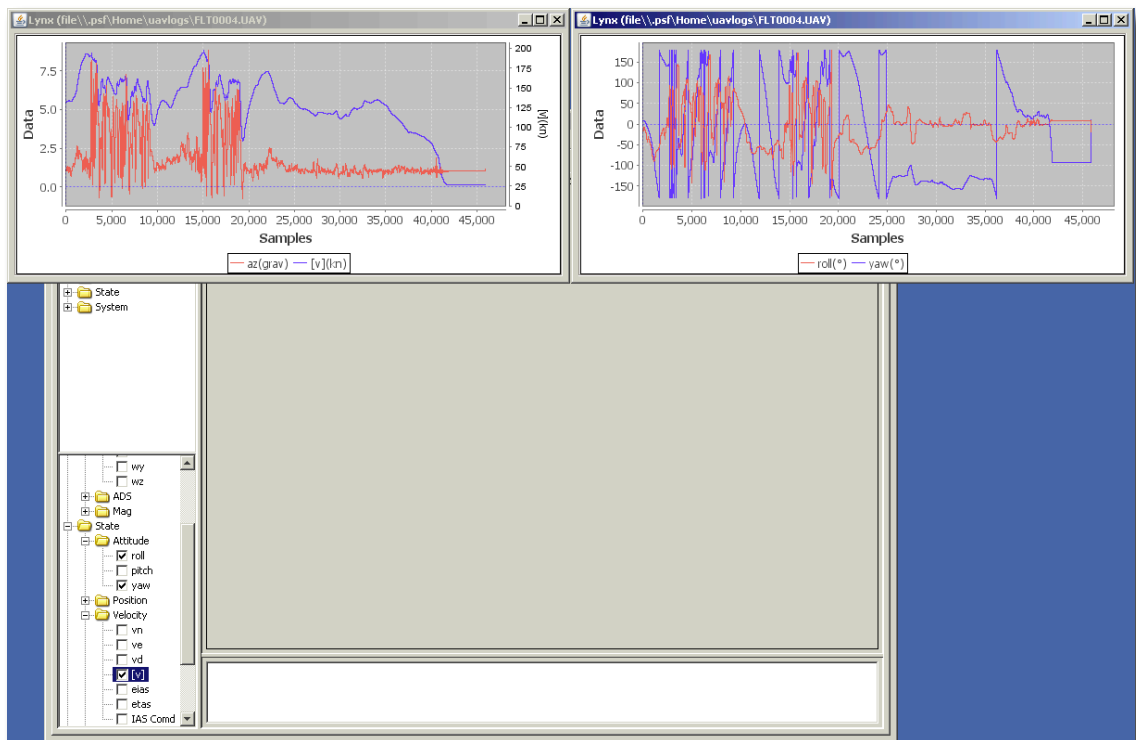
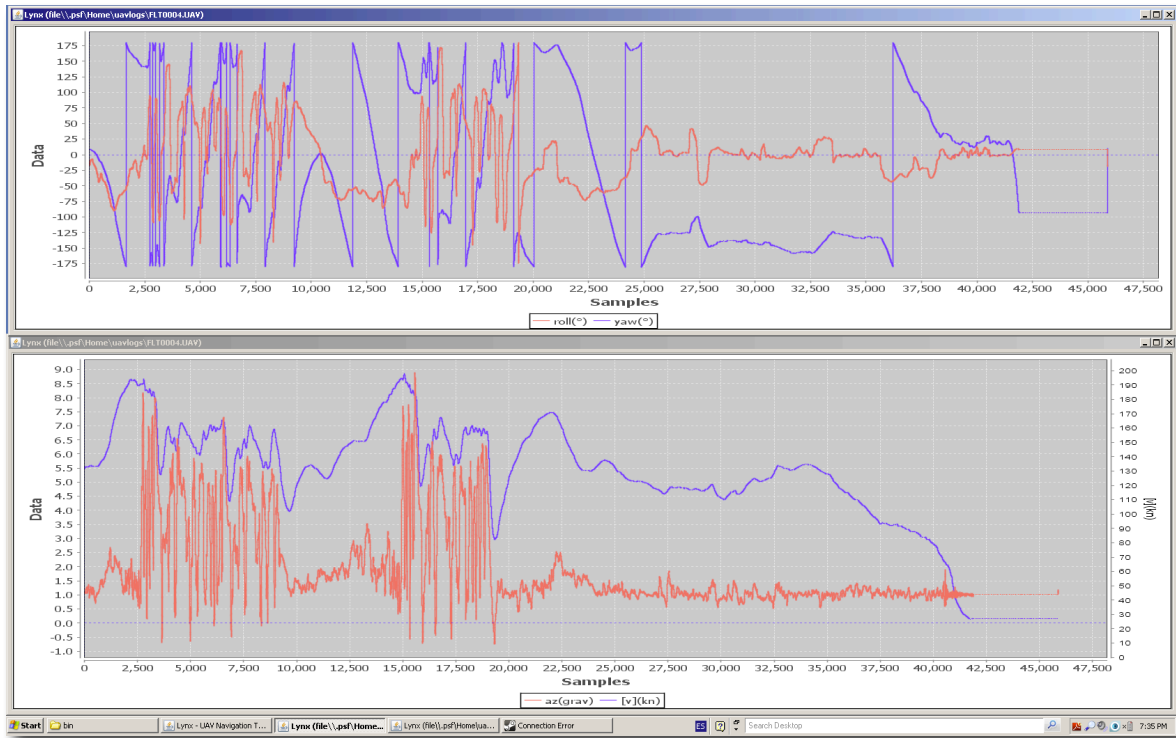

Figure 13
Figure 14
- Repeating the step to unleash the chart from the main frame both independent frames can be operated to make as easy as possible the study, side by side as in figure 13 or changing the size and position until reaching similar X axis scales as in figure 14: